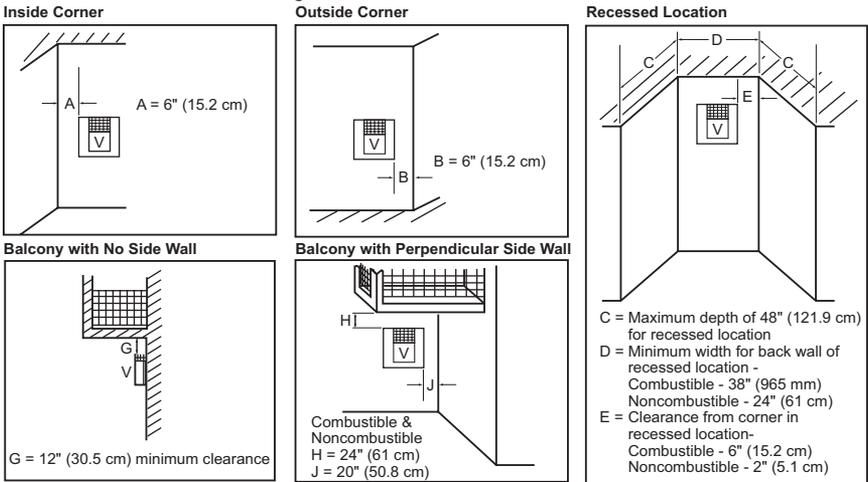

Figure 7 - Minimum Clearances for Termination Cap
- When locating termination cap, it is important to observe the minimum clearances shown in Figure 7, page 7.
2. Assemble the desired lengths of pipe and elbows necessary to reach from the fireplace flue up through the firestop. Be sure all pipe and elbow connections are fully twist-locked (see Figure 7, page 9).